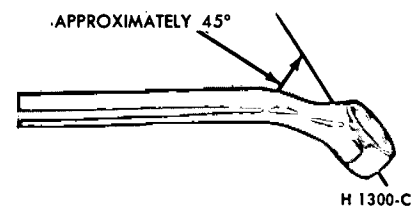

FIG. 5—Wrench for Bleeding Brake Hydraulic System
2. To bleed the secondary (rear) brake system, position a suitable 3/8 inch box wrench (Fig. 5) on the bleeder fitting on the brake wheel cylinder. Attach a rubber drain tube to the bleeder fitting. The end of the tube should fit snugly around the bleeder fitting.
4. If the rear wheel cylinders, the secondary brake system, are to be bled, position a 3/8 inch box wrench (Fig. 5) on the bleeder fitting on the right rear brake wheel cylinder. Attach a bleeder tube to the bleeder fitting. The end of the tube should fit snugly around the bleeder fitting.